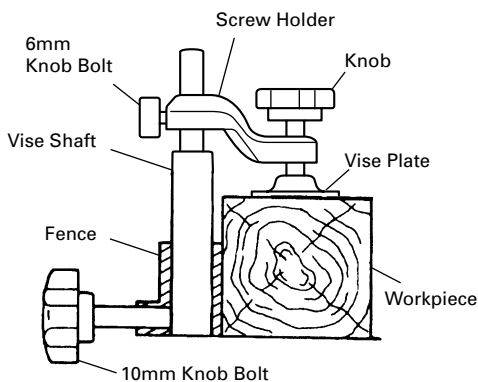

Fig. 17
(1) The vise assembly can be mounted on either the left fence {Fence (B)} or the right fence {Fence (A)} by loosening the 10mm knob bolt.
(2) The screw holder can be raised or lowered according to the height of the workpiece by loosening the 6mm knob bolt. After the adjustment, firmly tighten the 6mm knob bolt and fix the screw holder.
(3) Turn the upper knob and securely fix the workpiece in position (Fig. 17).